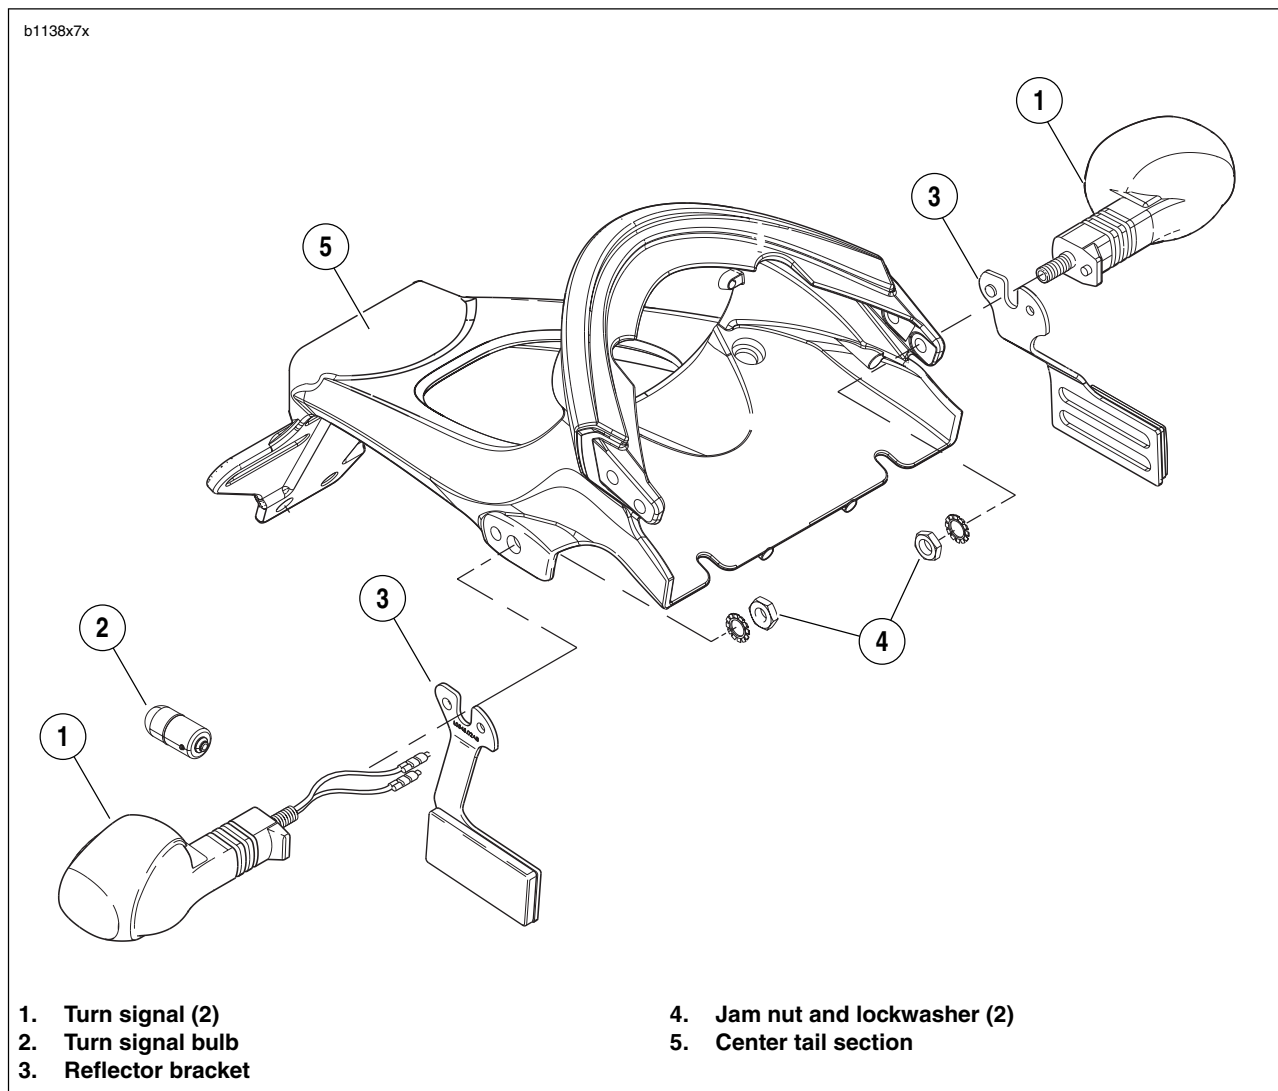

Figure 7-55. Rear Turn Signals
3. See Figure 7-55. Remove fastener and lockwasher (4).
3. See Figure 7-55. Attach turn signal using lockwasher and fastener (4). Tighten fastener to 25-28 **in-lbs** (2.8-3.2 Nm).